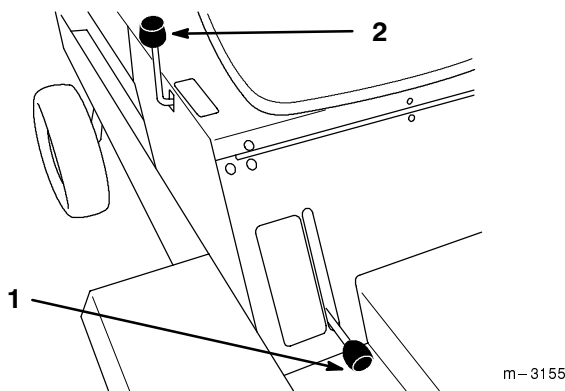

Figure 8
The implement lift lever (Fig. 8) is used to raise and lower various attachments.
2. Pull implement lift lever (Fig. 8) rearward to raise attachment to the desired height.
2. Push implement lift lever (Fig. 8) forward to lower attachment.